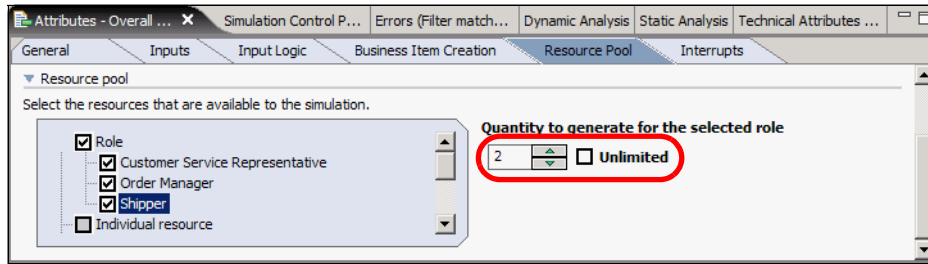

Figure 8-11 Simulation profile: Resource pool
On the *Resource Pool* tab, for the three roles, deselect *Unlimited* and set the quantity to one (1), except that we employ two shippers (Figure 8-11).